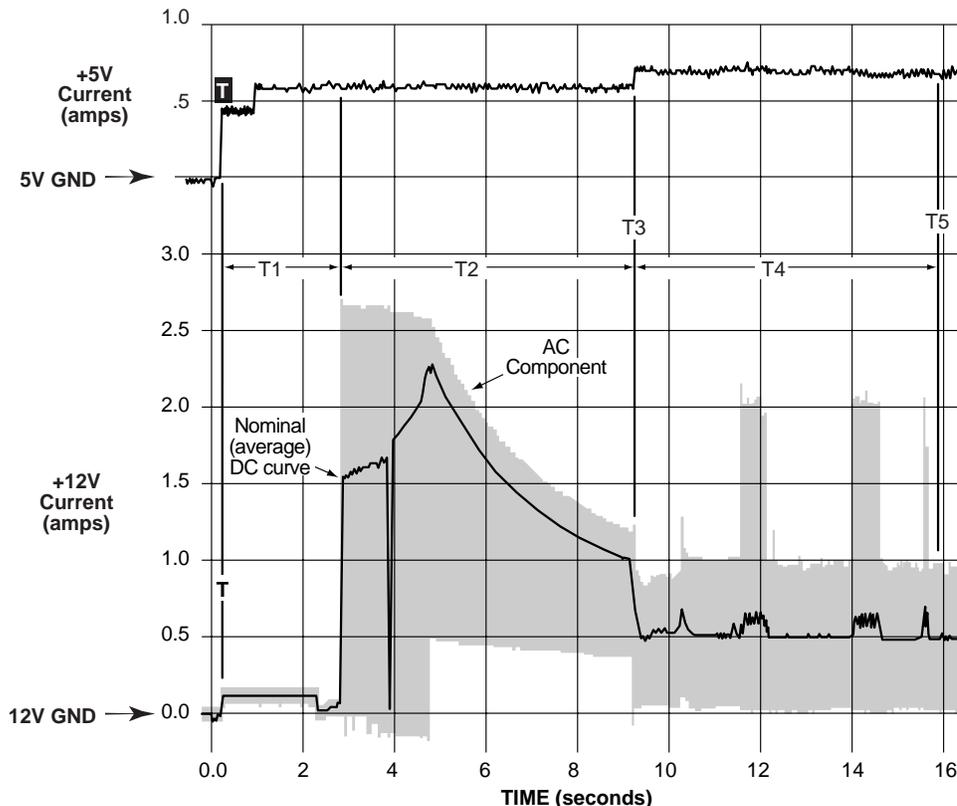

Figure 3. Typical Barracuda 4XL family drive +5 V and +12 V current profile
- [3] See +12 V current profile in Figure 3.
Figure 3 identifies the drive +5 V and +12 V current profile. The current during the various times is as shown: